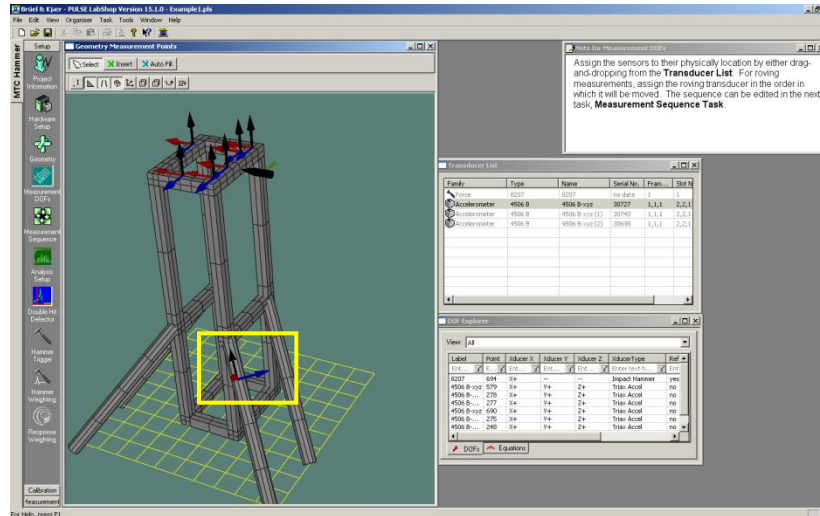

Figure 5: Degrees of freedom on oddly angled surfaces will align with the coordinate system of that surface.
- If the degree of freedom is in an odd place such that it is not lined up with the global coordinate system but instead at an angle, the software will naturally have the degree of freedom pointed such that the accelerometer can be placed in this direction. (Figure 5)